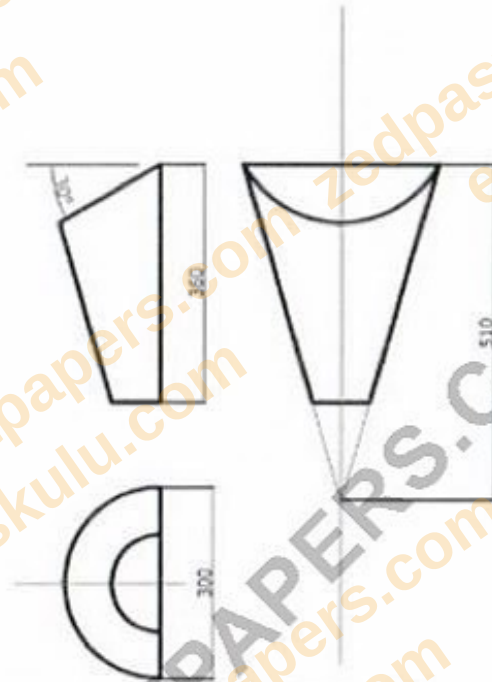

Figure 10
- 11** In order to help solve the litter problem at Tinenenji Technical Secondary School Tuckshop, learners have decided to design and make litter bins. The litter bins will be attached to the walls of the tuckshop. The chosen solution of the design of the bins is in the shape of a truncated cone as shown in **figure 10**.
Question 10. SECTION B, PART III, Q11 [30 marks, if chosen]: surface development of a truncated cone litter bin (Figure 10).
Readings from Figure 10
This gives the complete, correctly-proportioned surface development (net) of the truncated-cone litter bin, ready to be cut out flat and rolled up into the 3-D shape shown in Figure 10.